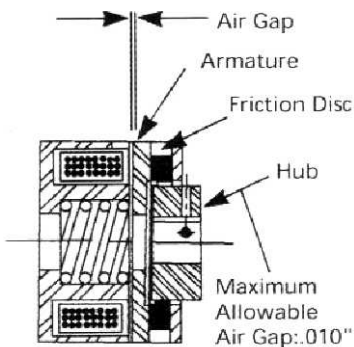

Figure 4 - Checking Brake Gap
- e. Check for worn brake disc by measuring the brake air gap with a feeler gauge. (See Figure 4.) Brake gap larger than the allowable wear limit may cause chatter or failure to release.